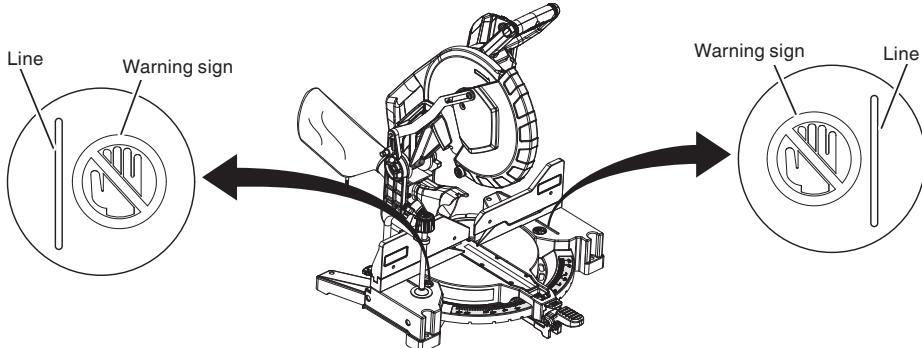

Fig. 16
- Never place your limbs inside of the line next to warning sign while the tool is being operated. This may cause hazardous conditions (see Fig. 16).